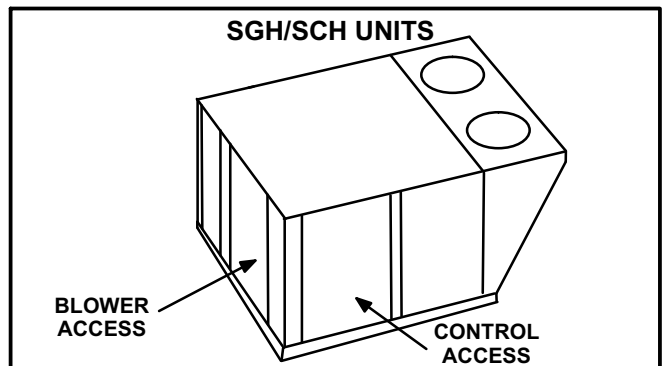

FIGURE 1
- 2- Open access panels as shown in figure 1 or 2.